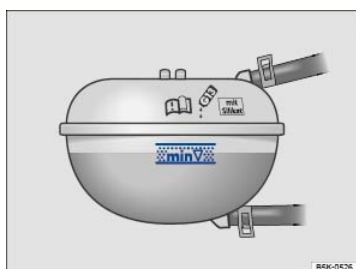

Fig. 201 Coolant expansion tank in the engine compartment.
- When the engine is cold, check the engine coolant level relative to the marking on the side of the expansion tank ⇒ Fig. 201.
- The engine coolant level must be inside the marks on the side of the expansion tank ⇒ Fig. 201. **Do not fill above the top edge of the filling range!** ⇒ .
- Refill engine coolant only up to the top edge of the marked fill range $\Rightarrow$ Fig. 201. Excess engine coolant may be forced out of the engine cooling system when it gets hot and cause damage.